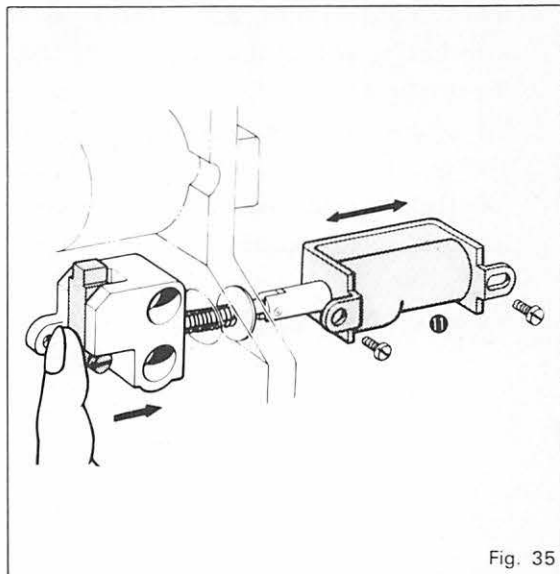

Fig. 35
If, on the contrary, this stroke is too big, loosen the screws for solenoid ⑪ and move it to left, and if small, to right. In this case, making sure that the stopper is returned with its spring action when you push it with your finger, you fix the solenoid moving it left or right. (Fig. 35)